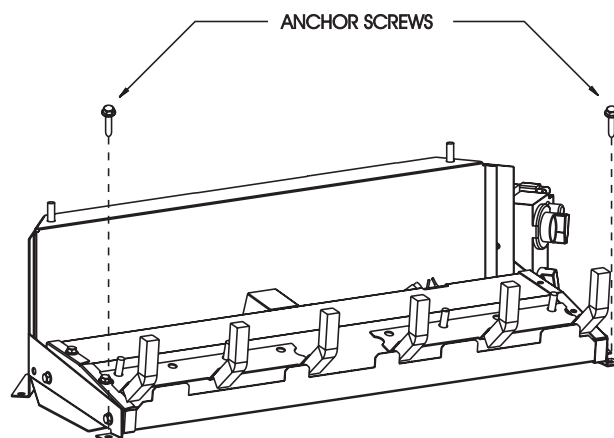

Figure 13 - VFSR Shown
2. An anchor hole is provided in the two bottom side members of the grate frame. After centering the grate correctly, mark the hole positions on the fireplace/firebox floor. Drill two (2) 5/32" diameter holes approximately 1-1/2" deep for masonry screws or 1/8" hole for sheet metal screws.
3. Anchor the grate to the fireplace/firebox floor using the screws provided. Refer to Figure 13.